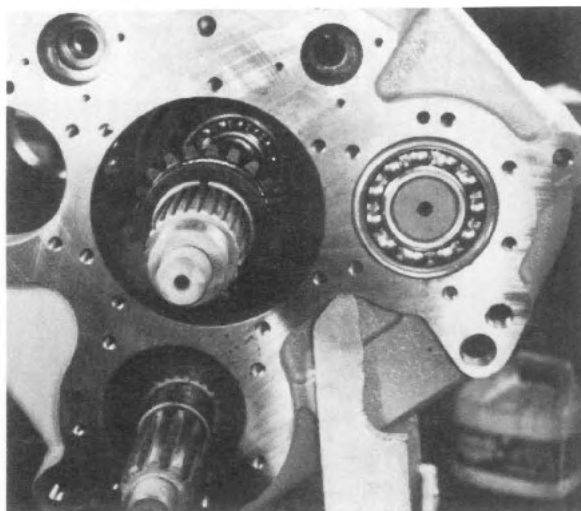
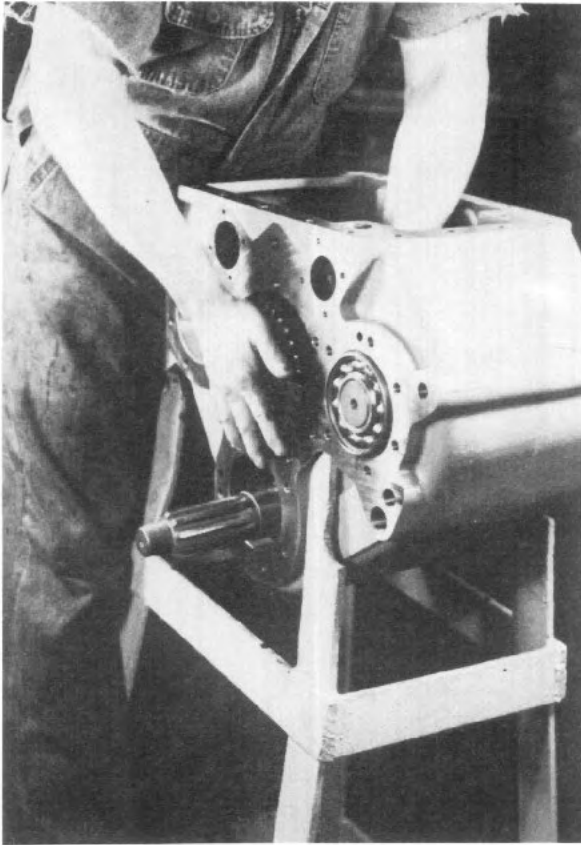

Fig. 25
Fig. 26
7. Fit direct drive gear (Item 40) onto shaft with chamfered spline side toward the front of the case so the chamfer will fit up onto the split retaining ring (See Fig. 25 and Fig. 26).